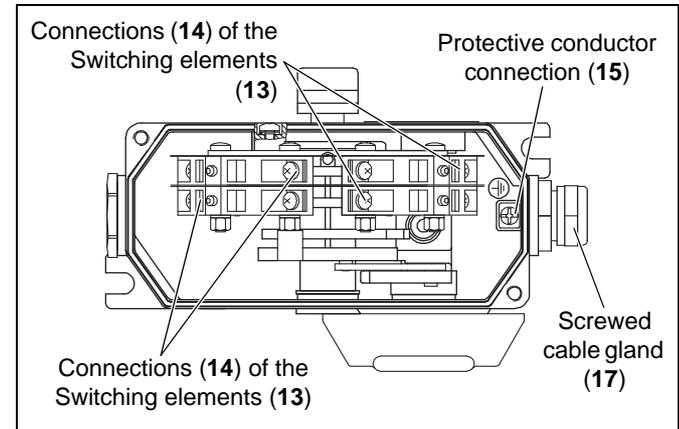

Fig. 5-14: Switch and protective conductor connections
3. Loosen the Potential equalization connections (26) on the Cover (12) and the Casing (25) (see fig. 5-14).